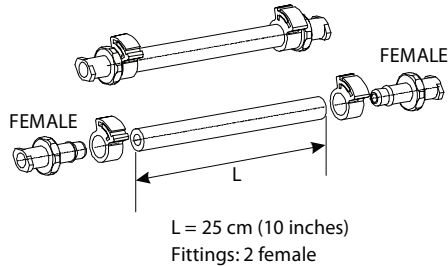

Figure 23: Setup of cleaning tubing, fittings and clamps.
1. Cut Sta-Pure (white) tubing and install fittings and clamps as shown in figure 23.